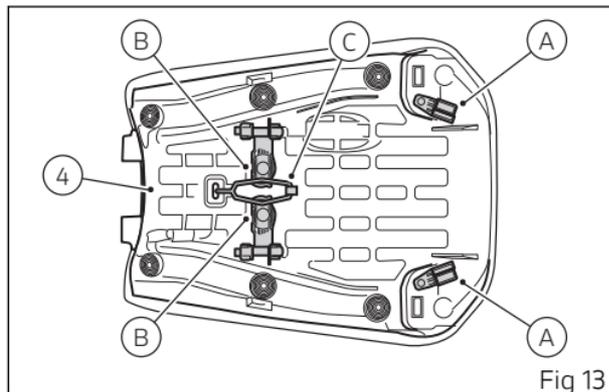

Fig 13
Configure the rear tootinging (A) and central rubber blocks (B) as shown (Fig 13), checking that the rubber blocks (B) are locked in place by the rubber band (C). Position the rider seat (4) on the vehicle, making sure to correctly fit it into the lower part of guides (5).
Configure the rear tootinging (A) and release central rubber blocks (B) from rubber band (C), turning them outwards as shown (Fig 13), securing unused rubber band (C).